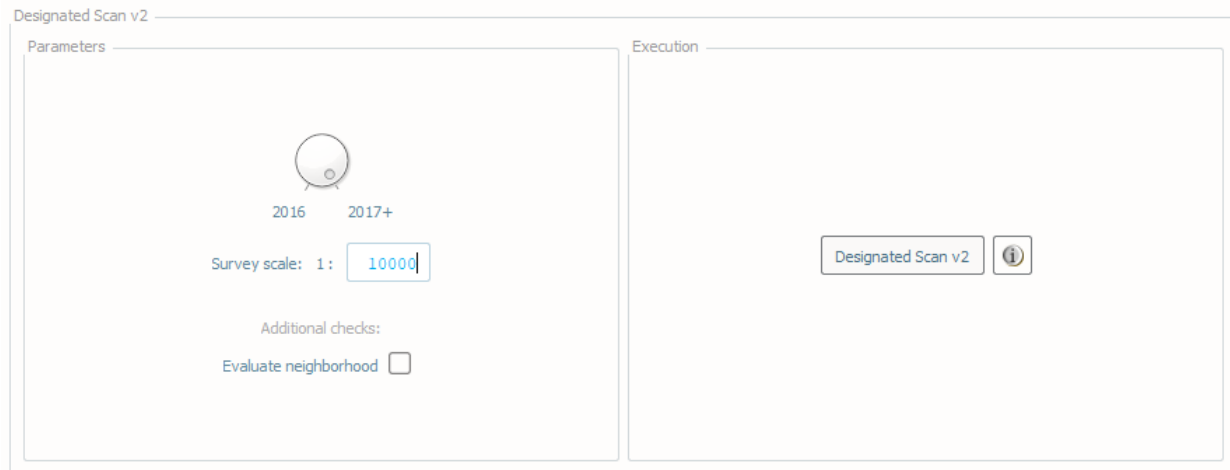

Fig. 2.38: The **Scan Designated** tab.
- Select the **Scan Designated** tab (Fig. 2.38) on the bottom of the QC Tools interface.